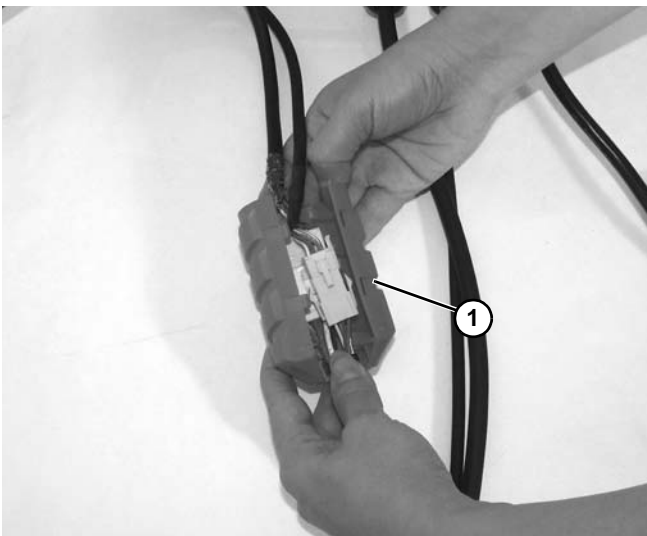

Figure 25
3. Open inner cord cover (Figure 25, item 1).